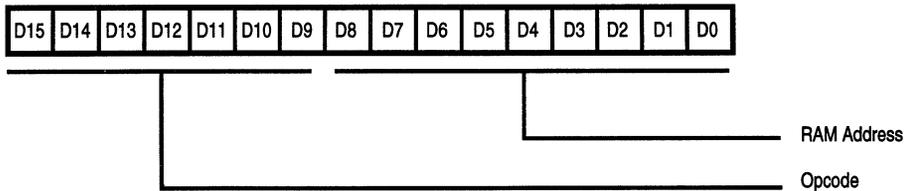

Figure 36. DSP Internal RAM Address Format
2. Register Direct (Figure 36): The second method is a direct addressing method. The address of the RAM is specified by the address field of the instruction directly.